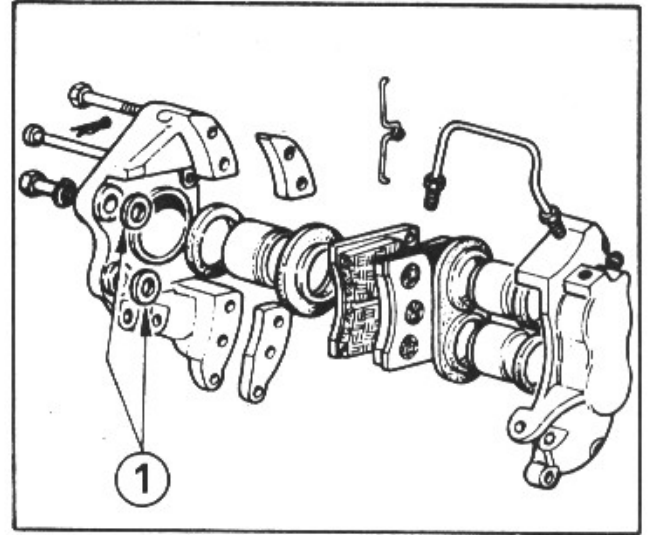

Fig. 86 Rear Caliper
--Check that the caliper arms are equidistant and parallel to the discs' contact surfaces, if necessary adjustment is needed check spacer washers 1 (fig. 86) of 0.2 mm. thickness and tighten the retaining bolts of the front calipers to the uprights and those of the rear calipers to the suspension levers attachment support to 10 Kg.